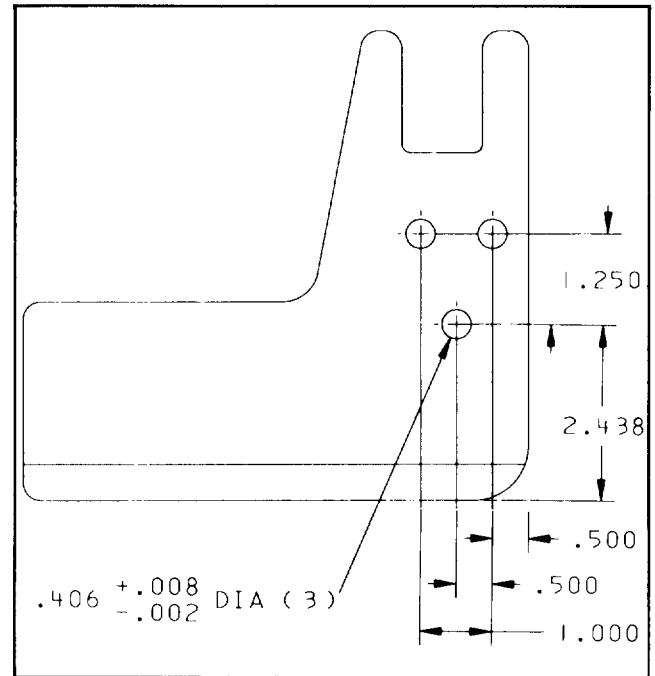

Figure 3
**Note:** If rear cradle mounting holes are not in lift arms, use the dimensions shown in Figure 3, to locate, mark and drill the (3) .406" dia. holes required in each lift arm.